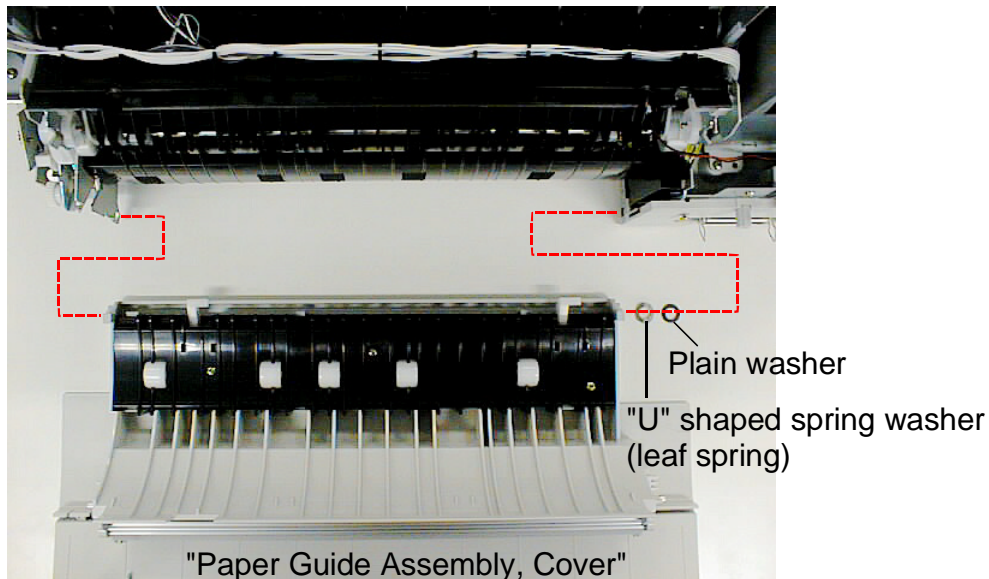

Figure 4-16. Paper Guide Assembly, Cover Removal
4. Push hard "Paper Guide Assembly, Cover" toward right or left direction releasing it from the protrusion at the side you pushed, and remove "Paper Guide Assembly, Cover" from the mechanism. (Refer to Figure4-16)